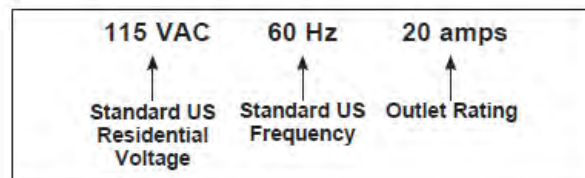
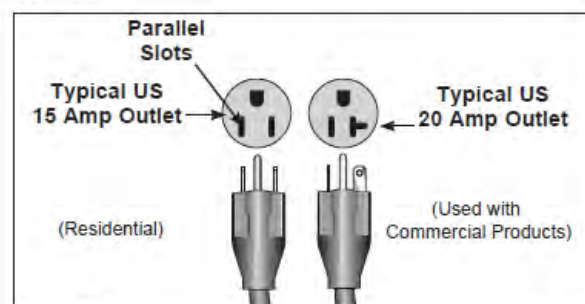

Figure 1
Figure 2
- TRUE's recommendation is to leave a 39" safety zone at rear of elliptical. The sides of the unit should be at least 20" away from the wall or obstructions. (See Fig 1)
For example, in the United States some TRUE treadmills require a circuit rated 115 VAC, 60 Hz and 20 amps. See Figure 1. However, a home typically has 15 amp outlets. In this case, contact an electrician to install a 20 amp dedicated line prior to use. See Figure 2.
- a) **Important:** With machine still on pallet, attach handle bars to front and rear of machine. Handle bars will provide assistance in moving machine. Figures 1 & 2